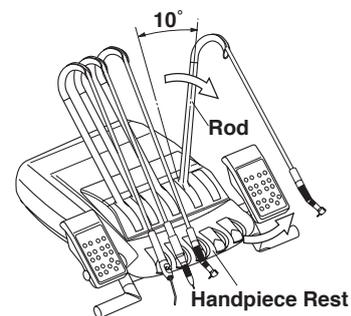

Fig.3-26 Handpiece Rest & Rod
(1) Foot Control (Type A2) (Fig.3-26 & 3-27) **A**
(2) Electric Motor Foot Control (Type SE) (Fig.3-26 & 3-28) **E**